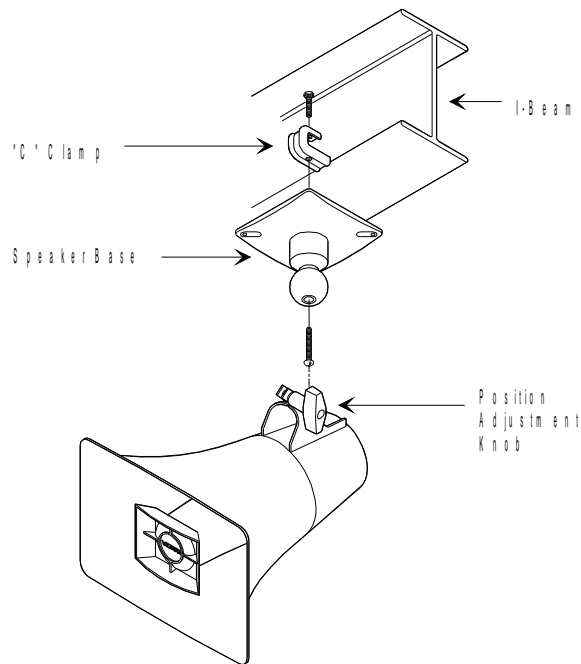

Figure 1 - Mounting to a Beam with a "C" C clamp
- A "C" clamp is provided with the horns to allow mounting to a beam. Place the bolt through the hole in the bottom of the base to secure the "C" clamp to the beam (See Figure 1). It is suggested that the horn be mounted to the underside of the "I" beam to provide maximum positioning adjustments.